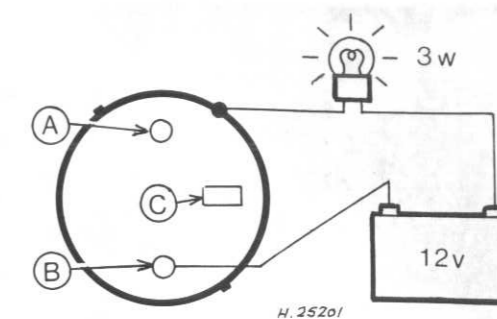

Fig. 12.3 Solenoid winding check (Sec 10)
- 4 Connect a battery and a 3 watt test lamp between the solenoid body and the solenoid motor terminal (Fig. 12.3). The test lamp should light, if not, the solenoid windings are open-circuit.